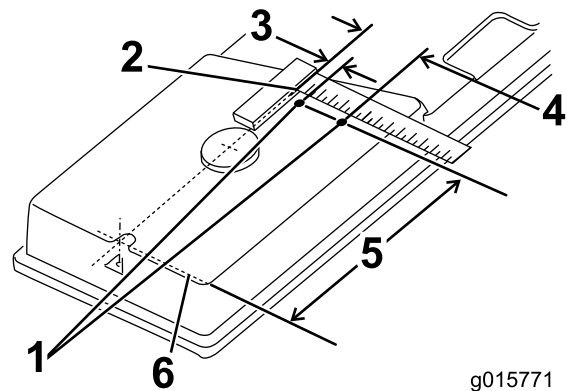

Figure 2
5. Drill 2 holes in the top of the deck belt cover (Figure 2).